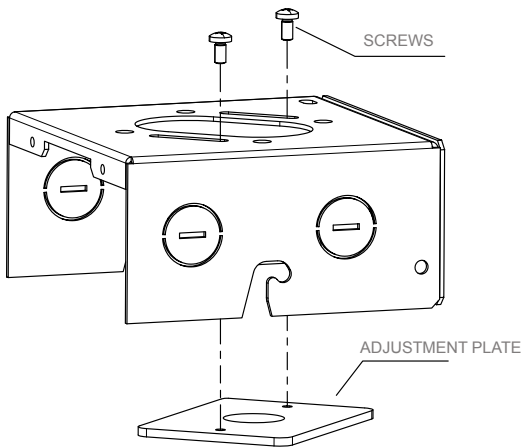

Figure 9
3. Remove the adjustment plate and two screws. See Figure 9.